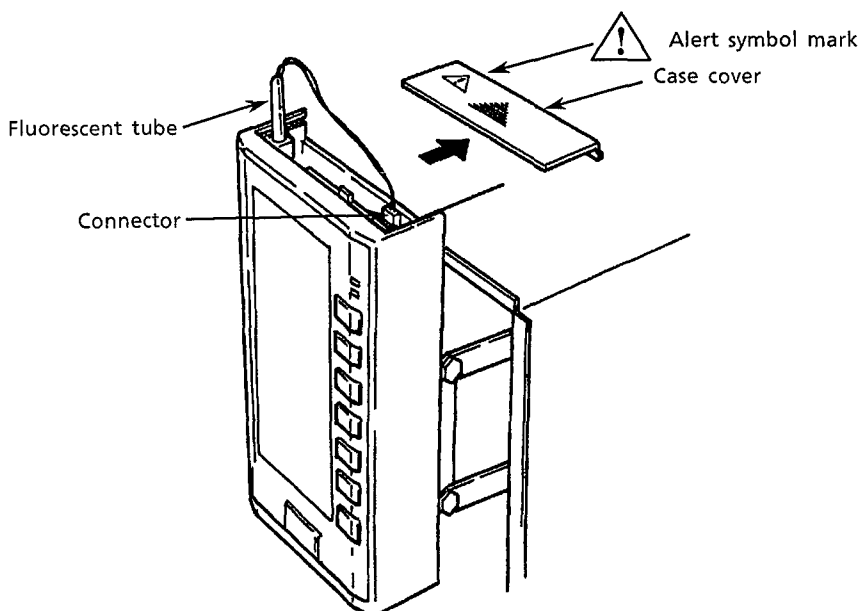

Figure 11.4 Replacing the Fluorescent Tube
- ① Swing up the front panel.
- ② Detach the case cover at the top of the front panel.
- ③ Disconnect the connector of the fluorescent tube, and pull up the fluorescent tube (see Figure 11.4).
- ① Attach a new fluorescent tube by performing the reverse of the steps for "How to Detach" above.